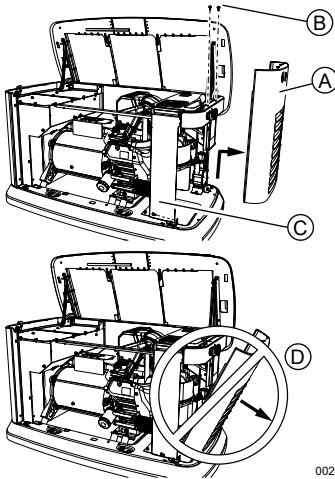

Figure 3-3. Intake Side Panel Removal 002961
See Figure 3-3. Intake side panel (A) must be removed to access battery compartment, fuel regulator, and sediment trap.
2. Use a hex key to remove two mounting screws (B) and L-bracket screw (C).